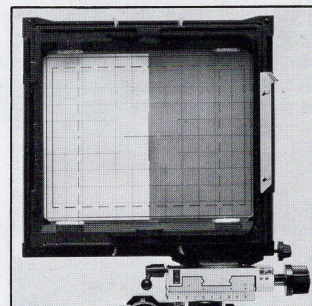

Fig. 3.50
1. Splitting up the image area with displaced framing, Fig. 3.50 and 3.51
Every SINAR camera takes format dividing masks between the bellows and the back. They are interchangeable and adjustable to split up the image into two or four areas. In the former case (Fig. 3.50) you can simply turn the back round – after closing the film holder – through 180° and make two exposures without moving the frame mask.